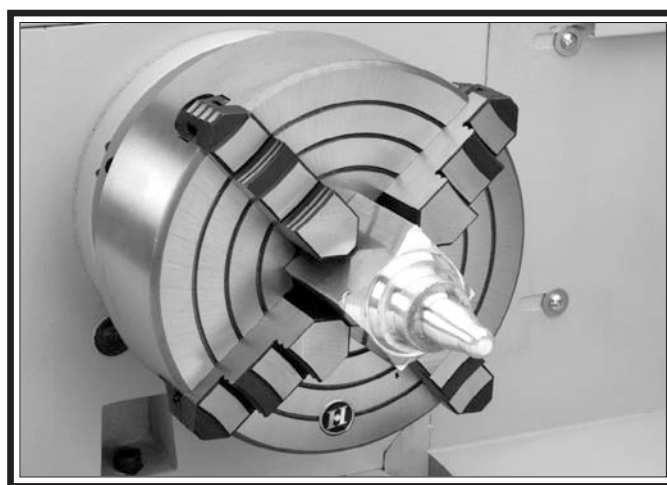

Figure 24. Example photo of non-cylindrical workpiece correctly mounted on the 4-jaw chuck.
- If the workpiece is not correctly centered, make fine adjustments by slightly loosening one jaw and tightening the opposing jaw until the workpiece is correctly positioned (see **Figure 24** for an example).